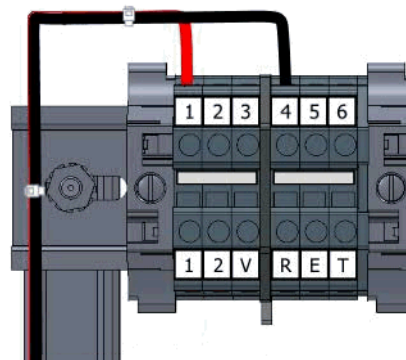

Figure 3 Install 12 V Terminal Block Wires
Step 3. Install the red and black wires to the top of Terminals 1 and Terminal 4, respectively. See *Figure 3*.